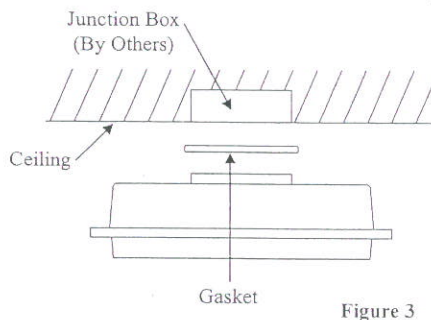

Figure 3
6. Mount luminaire over junction box using two 1/4" bolts (by others). See Fig. 3. Seal mounting bolts with silicone sealant.